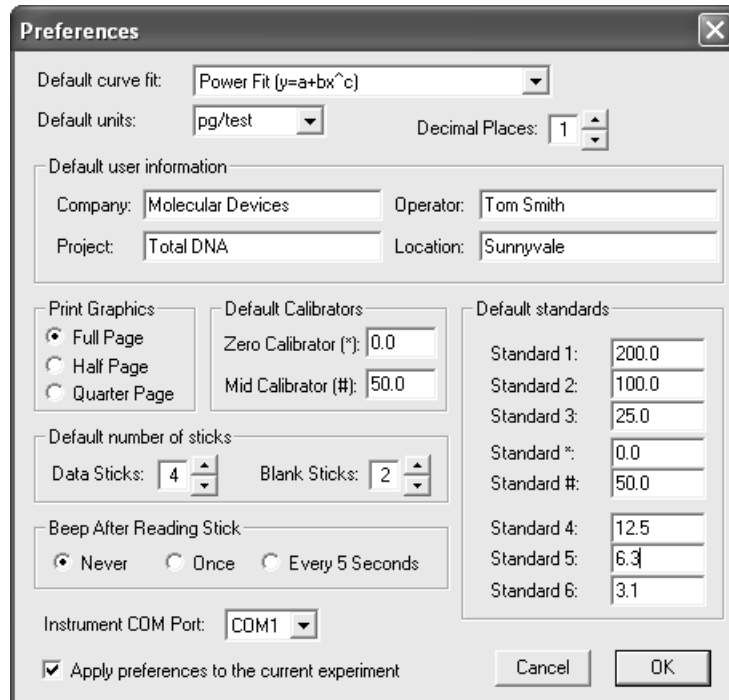

Figure 4-6: The Preferences Dialog
- 2) The Preferences dialog opens (Figure 4-6).